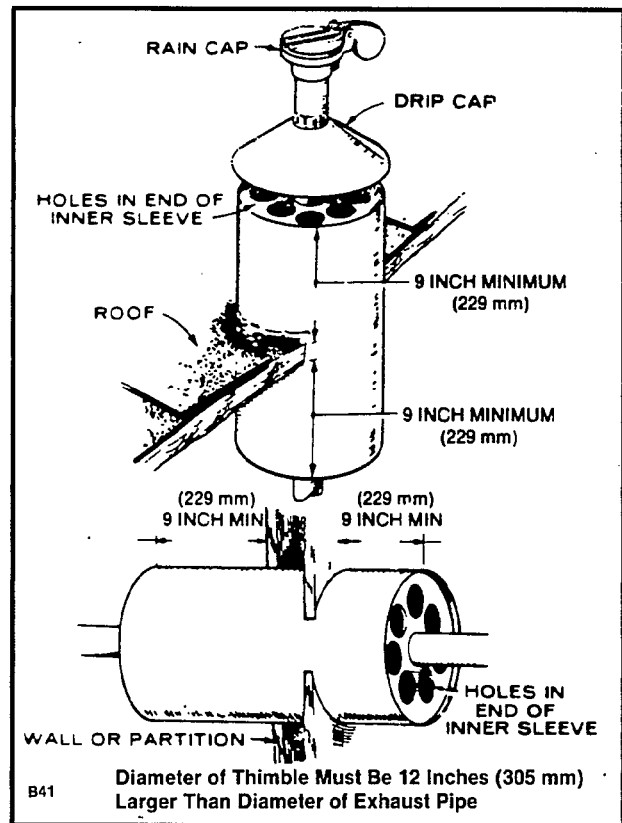

FIGURE 3-2. EXHAUST THIMBLE
- Route the pipe at least 9 in. from combustible construction and fuel lines. Use an approved thimble to maintain the clearance through walls (Figure 3-2).